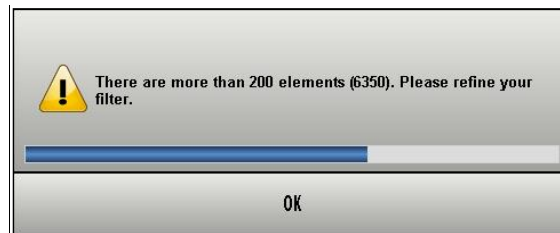

Fig 48
- 1) Timer window with single option (Fig 48).